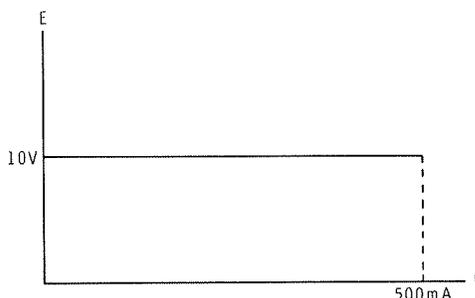

Figure 2
2. Turn the CURRENT control to its maximum clockwise position. The allowable values of voltage and current are shown in Figure 2.